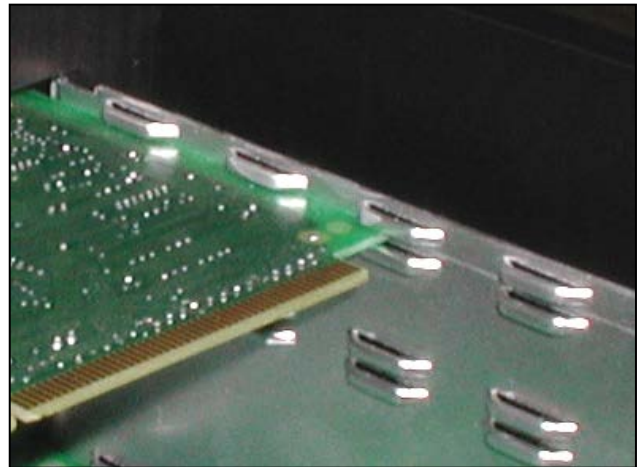

Figure 3-118. Card Track
5. Line up new board with the card track inside the Card Carriage (Figure 3-118).